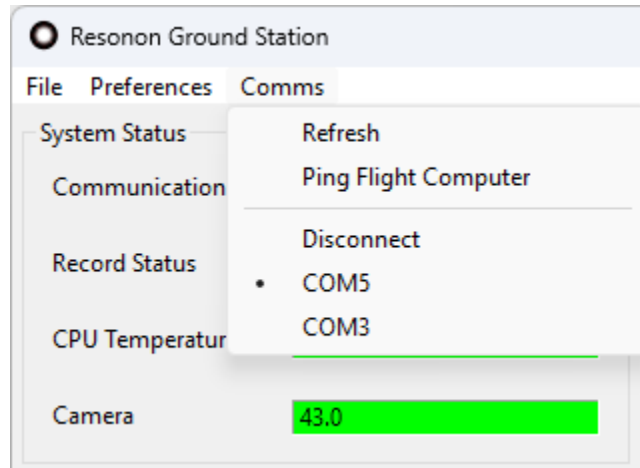

Fig. 3.3: COM port menu
- If the COM port setting is not correct, simply select the correct port from the *Comms* menu item. The system attempts to connect immediately. See Fig. 3.3.